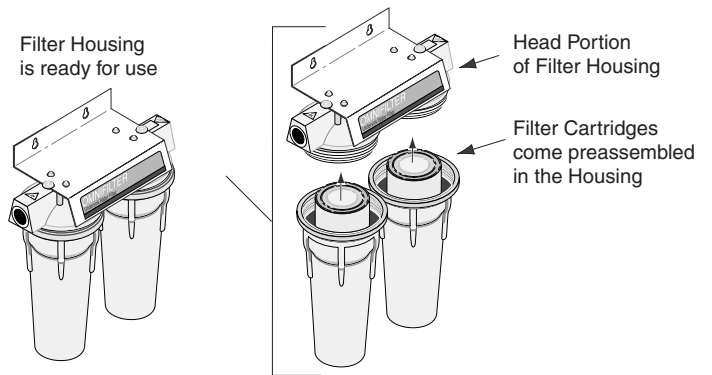

Figure 6
10. The filter cartridge comes preassembled in the filter housing. See Figure 6 for the filter cartridge components.